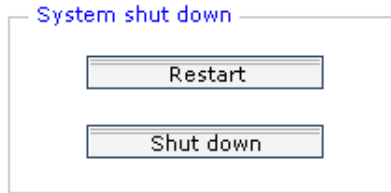

Figure 34: system restart/shutdown buttons.
5. "System shut down" control is located in the lower right corner section (Figure 34). To power down or restart the Measuring Device, press the corresponding button.